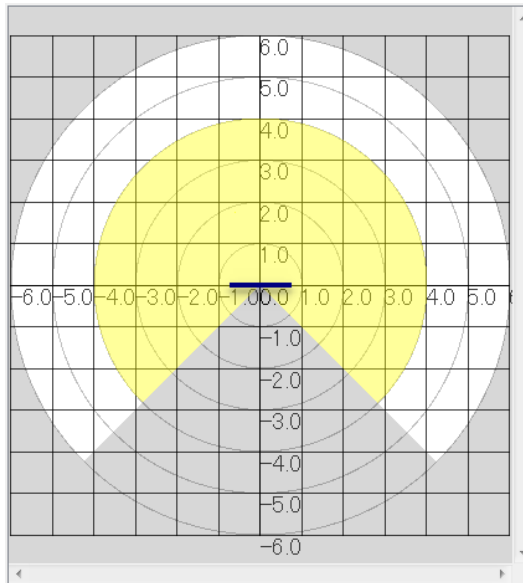

Fig 4.2.1.2.2 Default position of dependent offset bar
- It is possible to delete the offset value of the point by right-clicking of the mouse when the offset bar is selected, or press delete or the backspace key on the keyboard. The offset bar as shown in Fig.4.2.1.2.2 will be displayed in the default position of the coordinate origin.